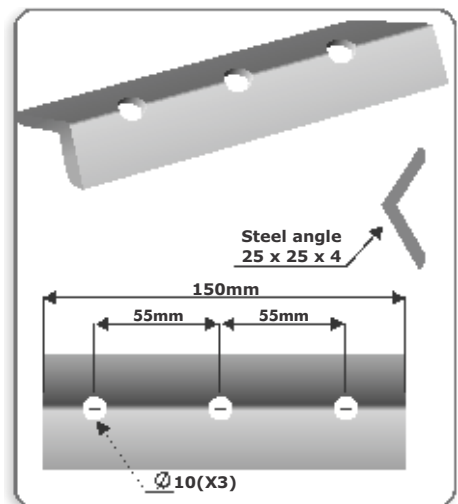

FIGURE 14. COUPLER PULLER
13. Use the coupler puller shown in Figure 14 to remove the coupler